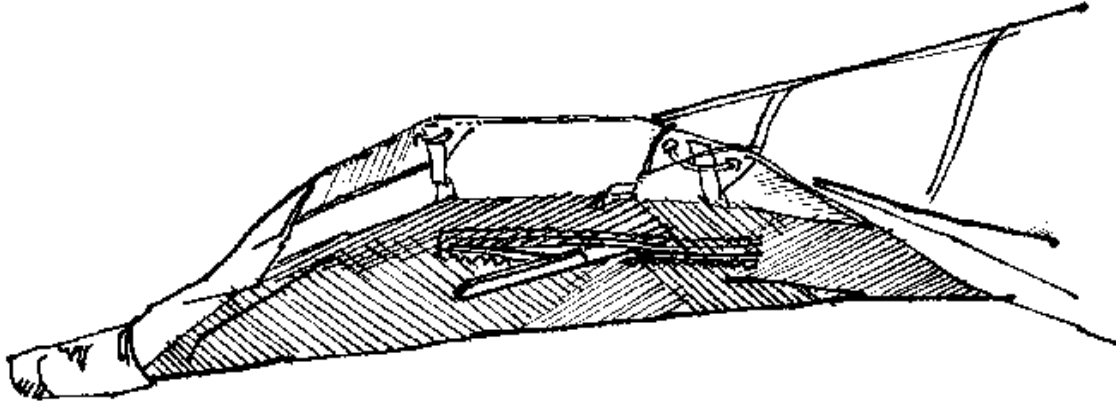

Fig. 5
2.2.3. Install the small mast on the LE-tubes/X-beam junction to its proper place. Dive sticks must be outside of the sail. (Fig. 5).